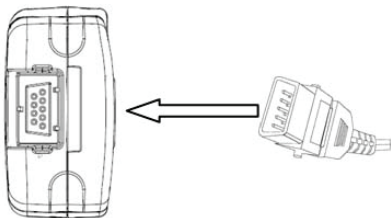

Fig. 3
3. Plug the SpO₂ extension cable in the multifunctioning connector on top of the Oximeter, as shown in Fig. 3